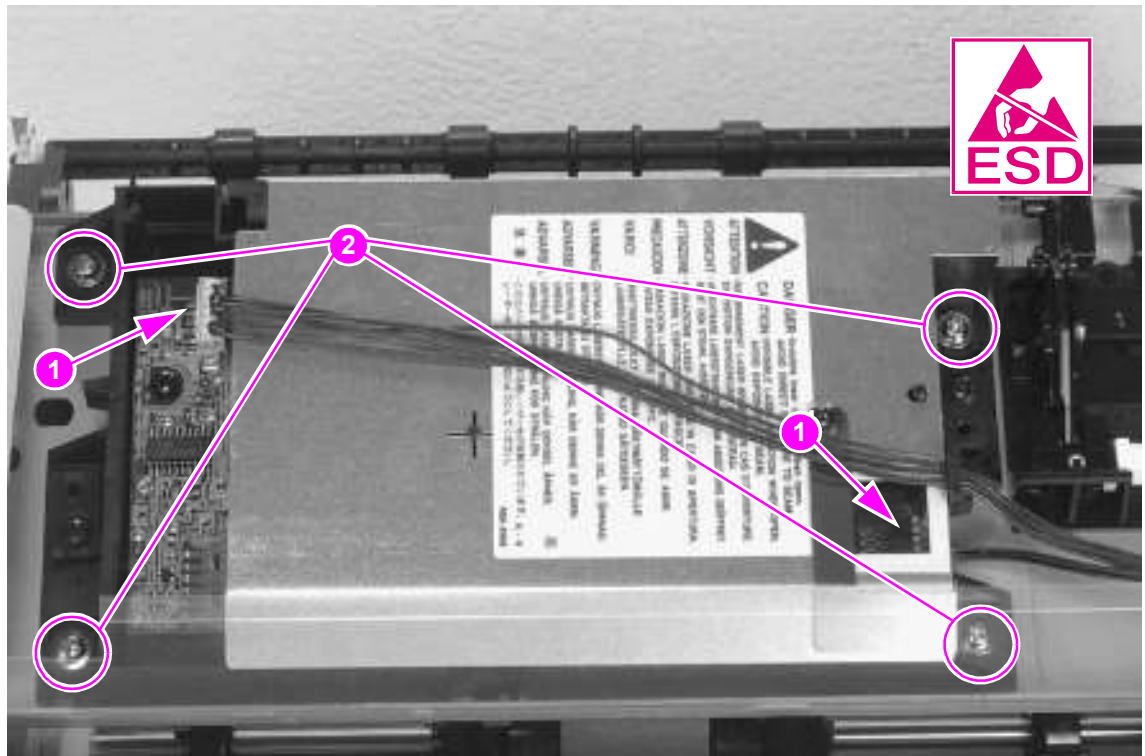

Figure 6-20 Laser/Scanner Assembly removal
- 2 Remove both Laser/Scanner connectors (Figure 6-20, callout 1).
Note The Laser/Scanner connect cable on the HP LaserJet 6L Pro is twisted (not shown in Figure 6-20).
- 3 Remove all (4) screws and lift the assembly straight off (Figure 6-20, callout 2).
The Laser/Scanner connect cable on the HP LaserJet 6L Pro should be twisted before reinstalling (not shown in Figure 6-20).